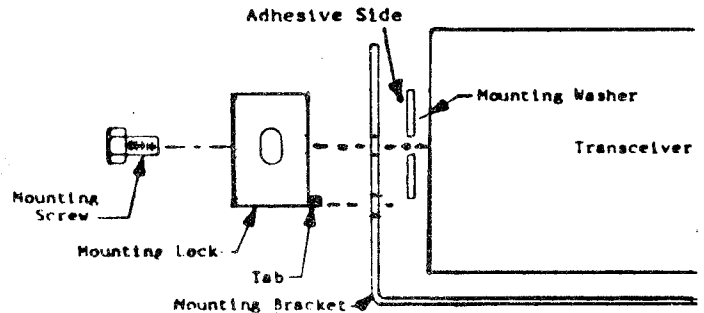

Figure 2-3. Mounting-Lock Installation
3. Secure mounting lock to unit, using one of the hex-head mounting screws provided. Be sure that screw passes through correct hole in mounting bracket. Refer to Figure 2-3.